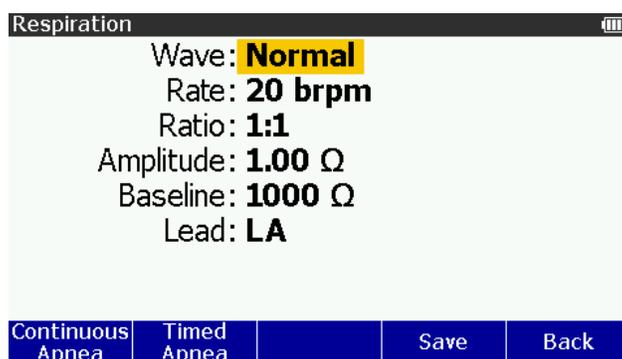

Figure 25. Respiration Screen
3. Push **ENTER**. The Respiration screen in Figure 25, shows in the display.